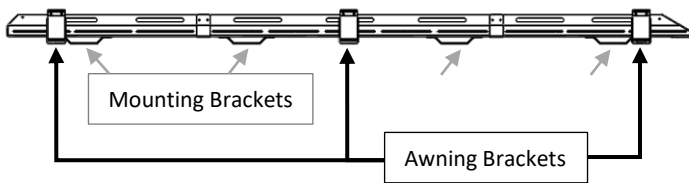

Figure 1: Location of Mounting Bracket and Awning Brackets
2. Before installing the modular roof rack onto the vehicle, slide the threaded inserts into the tracks of the roof using Figure 1 as a guide for the sequence between roof rack mounts and the awning bracket mounts.